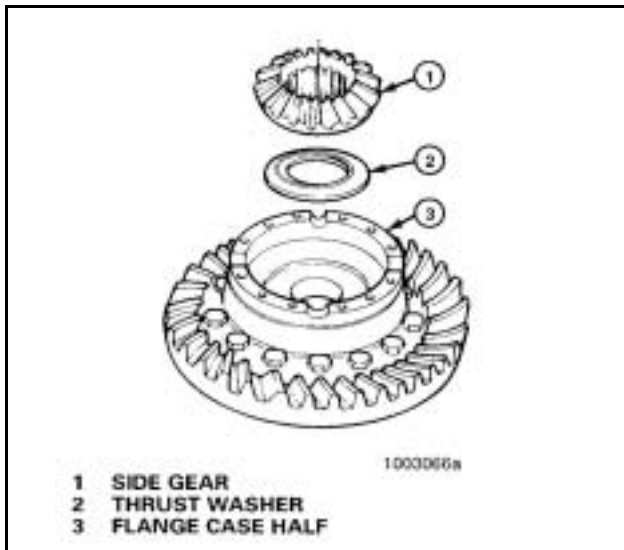

Figure 88
11. Install one thrust washer and side gear into the flange case half. **Figure 88.**